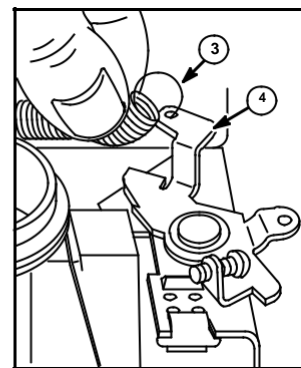

Fig. 54
3. Hook small loop (3) in throttle control lever (4) as shown in Fig. 54.